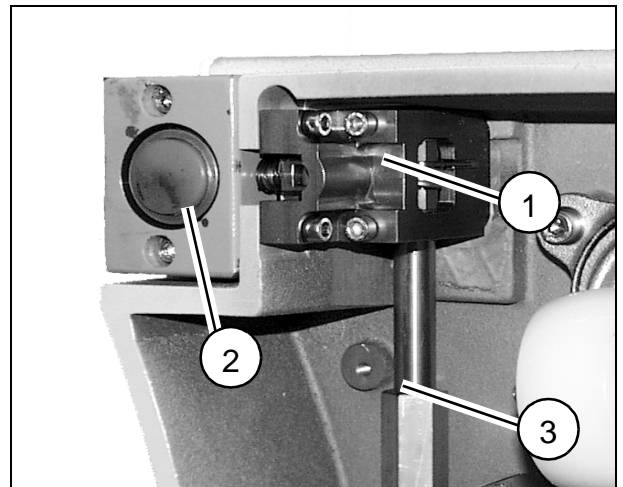

Fig. 2
- Unscrew the drive for the leveling unit (1/Fig. 2).
- Unscrew the leveling unit (2/Fig. 2). The floating shaft (3/Fig. 2) must be pushed down to remove it.
- Remove the floating shaft and the spring (3/Fig. 2).